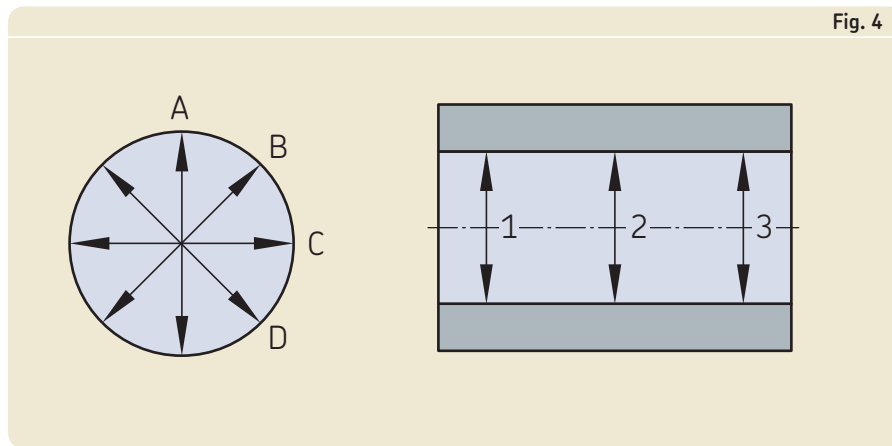

Fig. 4
- Measuring the bearing seat (→ **fig. 4**):